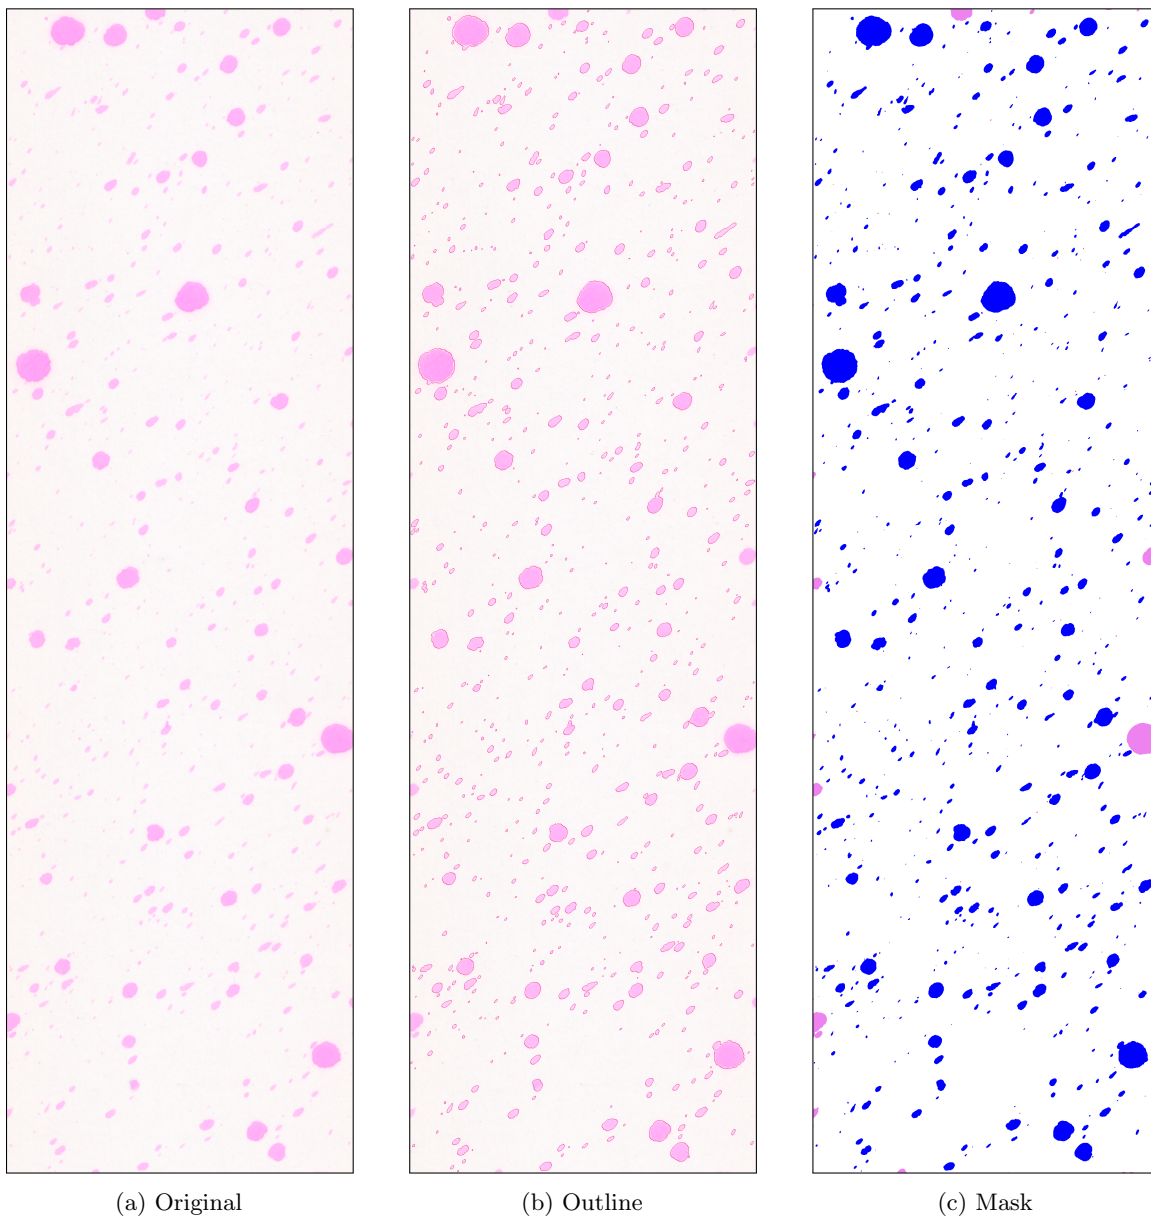

Figure 12: Settings - Report - Spray Card Image Type
- **Image Type:** The type of image to print for each card (Figure 12):